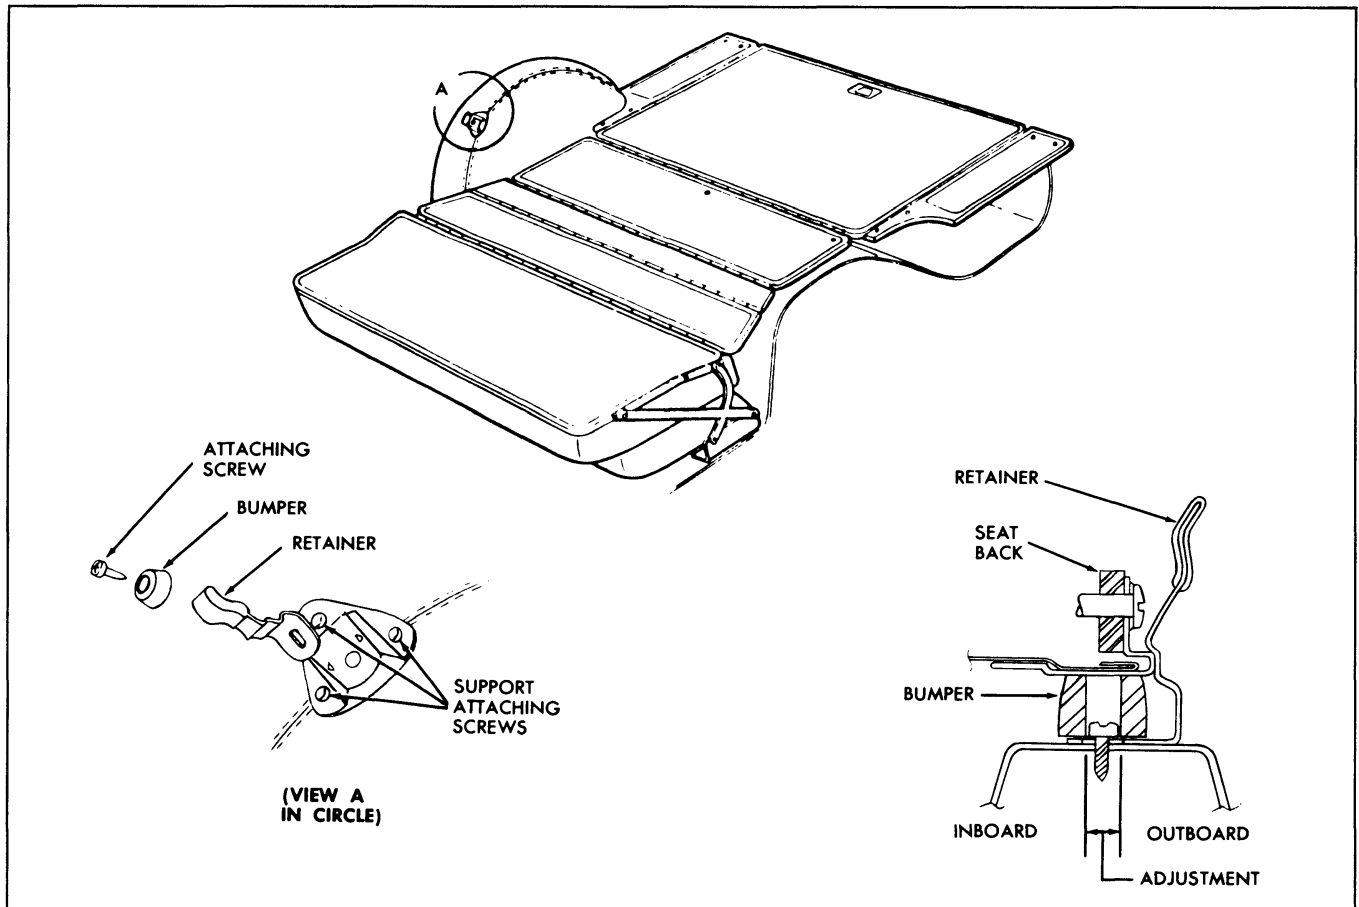

Fig. 18-12 Folding Rear Seat Back Bumper, Retainer and Support
1. With folding rear seat back in "down" position, remove screw shown in View "A", Fig. 18-12, and remove bumper and retainer from wheelhouse support.
2. Remove three (3) screws shown in View "A", Fig. 18-12 and remove support from wheelhouse assembly.
NOTE: The folding rear seat back retainer is adjustable inboard or outboard (See Fig. 18-12). To adjust retainer, raise folding rear seat back to "up" position and check retainer tension. Lower